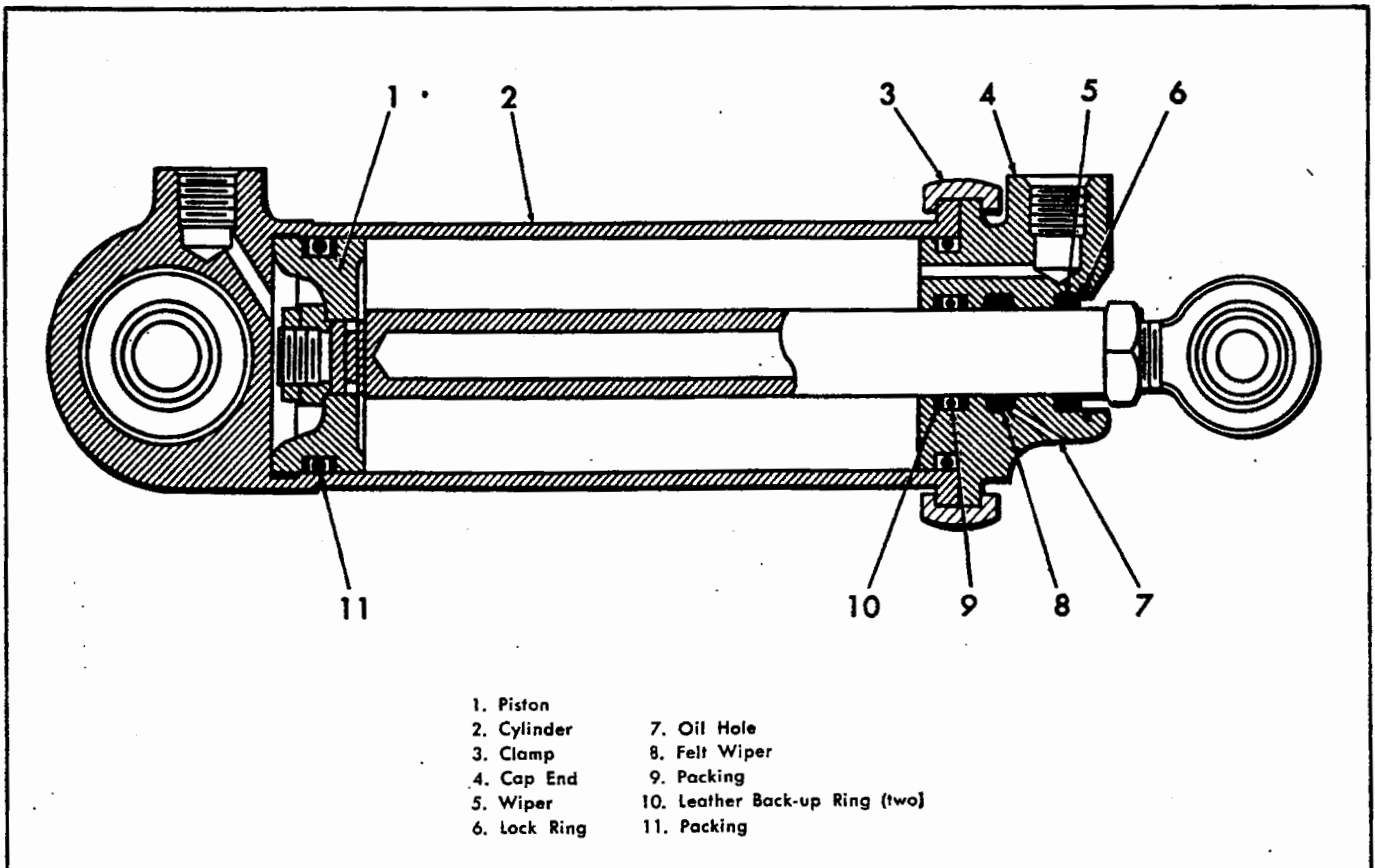

Figure 4-96. Typical Hydraulic Actuating Cylinder.
4-918. DESCRIPTION. The general design of hydraulic cylinders used in the F4U-5 airplane is represented by the typical cylinder shown in figure 4-96. These are one cap cylinders with the piston rod passing through the cap end (4) which is secured to the cylinder
(2) by means of a clamp (3). The piston (1) will move in either direction depending on the flow of hydraulic fluid. The end cap through which the piston rod moves is provided with a packing (9) to seal off leakage, and a leather back-up ring (10) installed on the side of the packing nearest the piston rod end.
4-921. **ASSEMBLING.** The assembly of the hydraulic cylinder is the reversal of the disassembly. The installation of the leather back-up rings must be on the side of the "O" ring away from hydraulic pressure; when only one ring is used, see figure 4-96 for correct position of leather back-up ring.